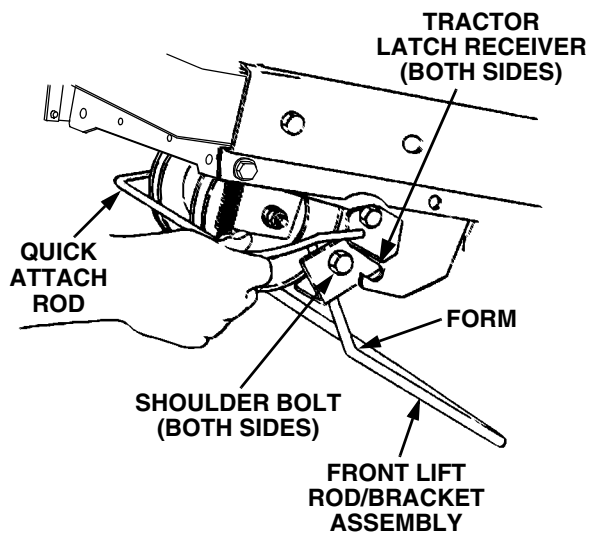

Figure 30
6. Refer to Figure 30 to ensure the correct orientation of the front lift rod/bracket assembly [the form (bend) in sides of rod point downward]. From the front of the tractor, push downward and hold the tractor quick-attach rod. Slide the shoulder bolts on each side of the front lift rod/bracket assembly fully into the left and right tractor latch receivers. Release the tractor quick-attach rod to capture the front lift rod/bracket assembly in the tractor latch receivers